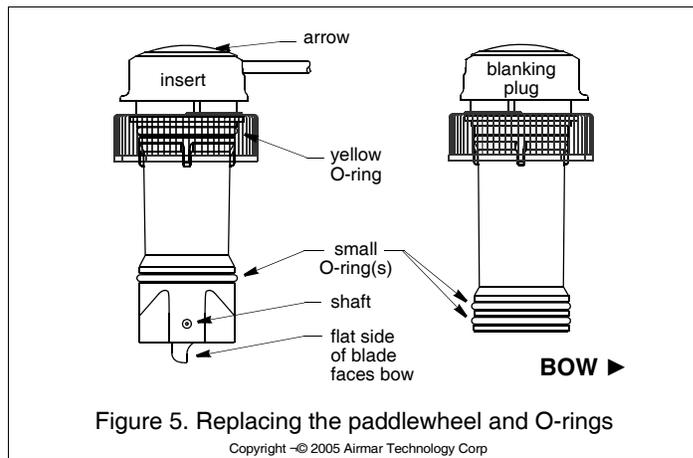

Figure 5. Replacing the paddlewheel and O-rings
- The O-rings must be intact and well lubricated to make a watertight seal. On the blanking plug, inspect the O-rings (replace if necessary) and lubricate them with the silicone lubricant supplied or petroleum jelly (Figure 5).
- To remove the old paddlewheel shaft, grasp the end with small diagonal wire cutters and pull (Figure 5).